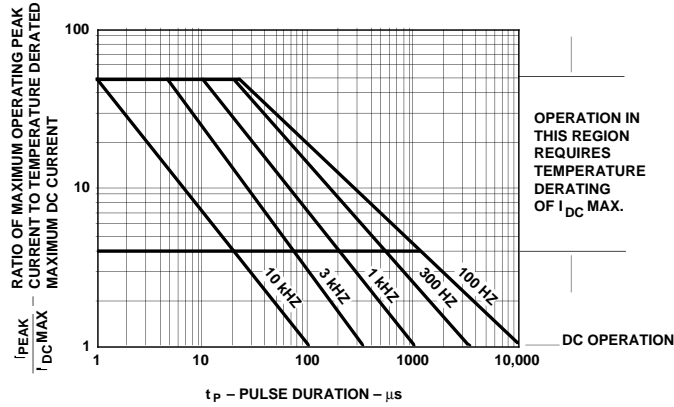

Figure 1. Maximum Allowable Peak Current vs. Pulse Duration - Red.
- See Figure 1 to establish pulsed conditions.